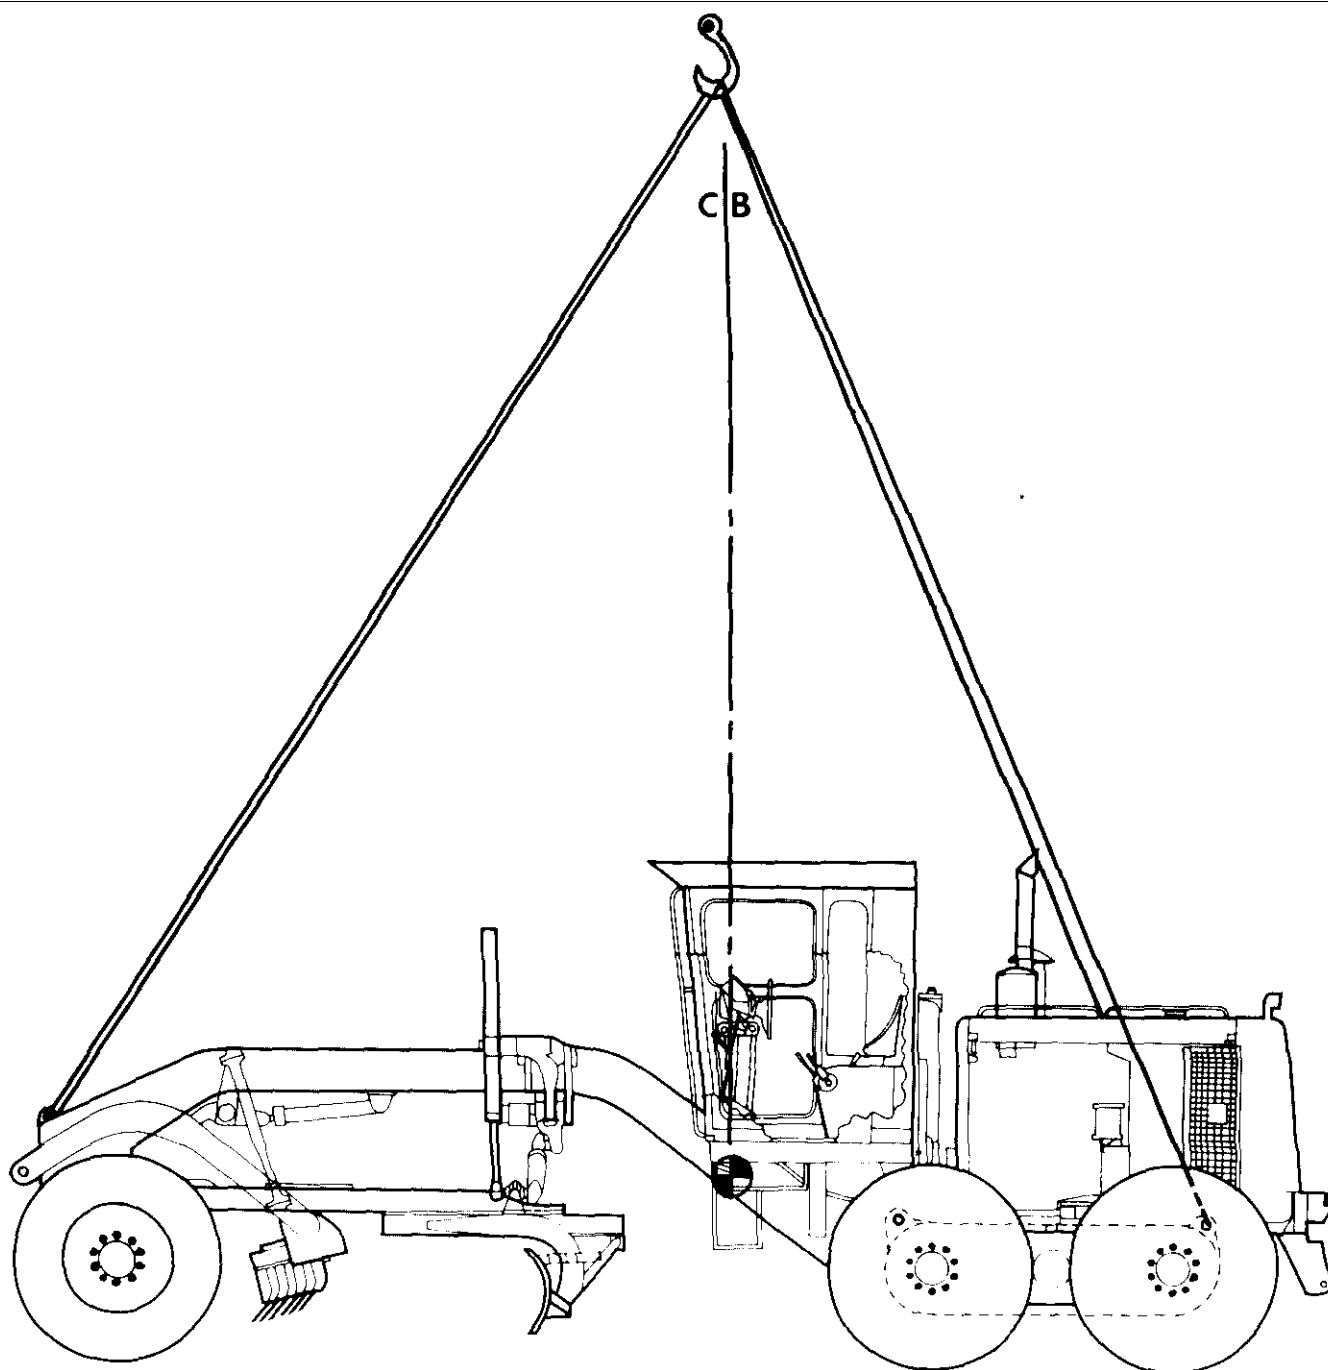

Figure 6-1. Typical lifting method for loading the model 130G grader onto a general cargo vessel.
- (1) Breakable parts are protected, and spare parts are stowed in or near the vehicle for ready access.
- (2) Vehicles are stowed in neutral with brakes off.
- (3) Battery terminals are disconnected.
- (4) Vehicles are adequately blocked, braced, and lashed.
b. *Lifting.* The correct lifting points on the vehicle are the lift eye provisions located above the rear axle and on the front of the grader blade support beam. A typical lifting diagram for the model 130G grader is shown in figure 6-1.